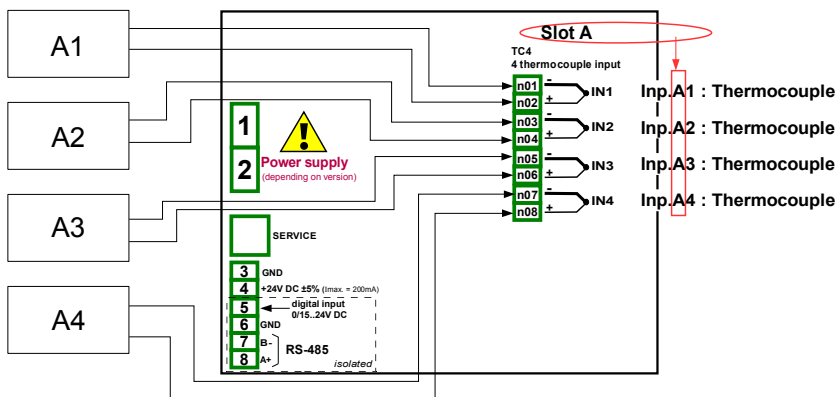

Fig. 7.63. Schematic diagram for the **TC4** module
Before measuring temperature the thermocouple sensors should be connected to the device. An example of how the connection is shown in **Fig. 7.63** (see also **Appendix 8.6. TC4, TC8, TC12 – THERMOCOUPLE SENSOR MEASUREMENT MODULES**).
- Source parameter set as **Inp. A1: Thermocouple** (see the connection in **Fig. 7.63**),
- Source parameter set as **Source - Inp. A2: Thermocouple** (see **Fig. 7.63**),
- Source parameter set as **Source - Inp. A3: Thermocouple** (see **Fig. 7.63**),
- Source parameter set as **Source - Inp. A4: Thermocouple** (see **Fig. 7.63**),